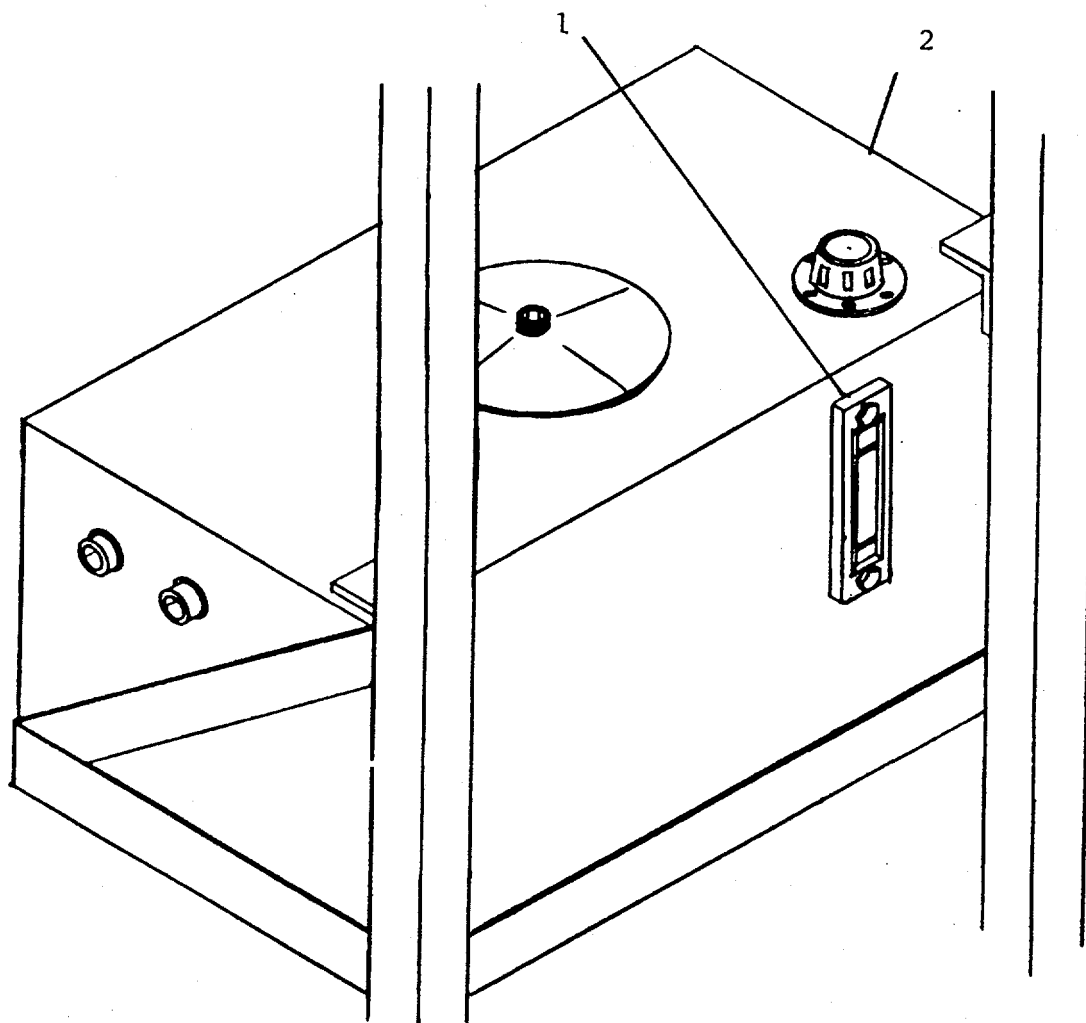

Figure 2-2. Hydraulic Oil Level Gauge.
- h.** The steering gauge (8) monitors pressure in the hydraulic steering system.
- i.** The direction indicator (7) locates the relative location of the propeller (direction of thrust).
- j.** The propulsion gauge (4) monitors hydraulic pressure of the main pump used for thrust.
- k.** The charge gauge (6) registers pressure of the booster pump.
- m.** The forward-reverse direction valve lever (15) controls direction of thrust by reversing propeller direction from clockwise to counterclockwise. This lever also proportionally controls the magnitude of thrust.
- n.** The lift-tilt valve (11) located under the control panel is used to tilt the outdrive out of the water.
- o.** The steering wheel (14) controls the outdrive slewing feature steering the vessel to port or starboard.
- p.** The 15 amp fuses (19) protect the instrumentation on the control panel.
- q.** The light switch (1) turns the light on or off on the control panel.
- r.** The hour meter (3) registers the total number of hours the engine has been run.
**2-2. HYDRAULIC OIL LEVEL GAUGE** (Figure 2-2). The oil level gauge (1) is located on the side of the reservoir (2) and is used to monitor the amount of oil available for the hydraulic system.